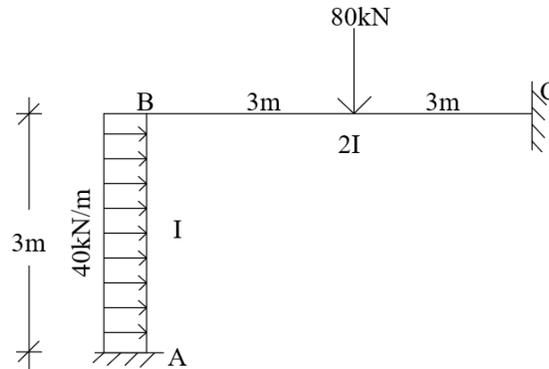

Fig. 2
- 4 Analyse the rigid frame ABCD by moment distribution method. Ends A and D are fixed. AB and CD are vertical members with moment of inertia I and length 4m . The horizontal member BC with moment of inertia $2I$ is 6m long and acted upon by a concentrated load of 100kN at 2m from B. (15)
- 5 Analyse the three-span continuous beam ABCD by Kani's method and draw BMD and SFD. Left end support A is fixed and all other supports are roller supports. Span AB= 6m , BC= 5m and CD= 4m . Span AB carries a central concentrated load of 80kN , BC carries a concentrated load of 80 kN at 2m from B and CD carries a UDL of 30kN/m . EI is constant. (15)
- 6 a) Determine the moments at A, B, C of frame shown in Fig. 2 using Kani's method and plot BMD. (7)